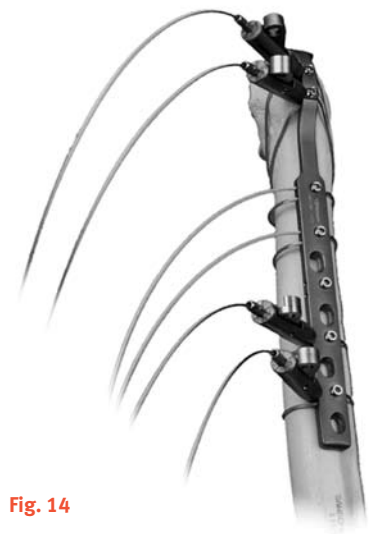

Fig. 14
**Extended GTR Tech Tip #2** - If cables are inserted and pre-tensioned proximally and on each end of the plate section of the Extended GTR, the GTR and bone can be grossly stabilized (Fig. 14). The cables are very useful in holding the reduction while cortical bone screws are inserted.